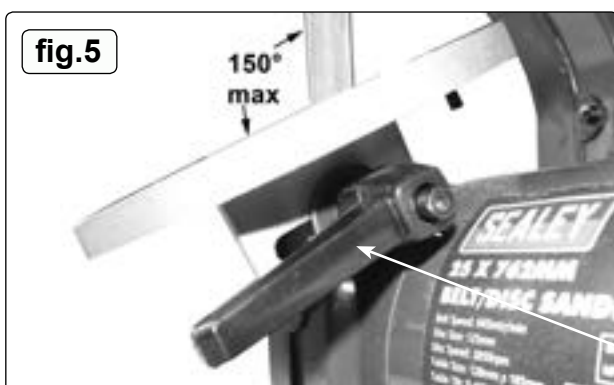

fig.5
5.5. Setting the table (>90°<150° to the belt) {See fig.5}